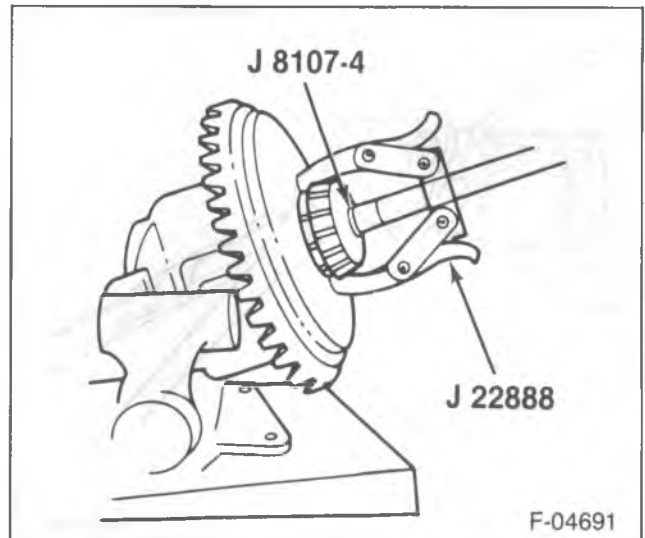

Figure 3—Removing Differential Side Bearing
- 10. Bearing outer races (8) and shims (9).
- 11. Differential side bearings (8) using J 8107-4 and J 22888 (figure 3).
- 12. Ring gear bolts (23).